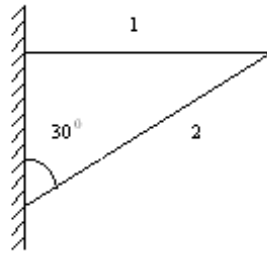

Figure 1:
3. Obtain the global stiffness matrix taking two elements 1 and 2 as beam elements for planar structure shown in figure 1. The length of the element one may be taken as L the values of E and I are same for both elements. [16]